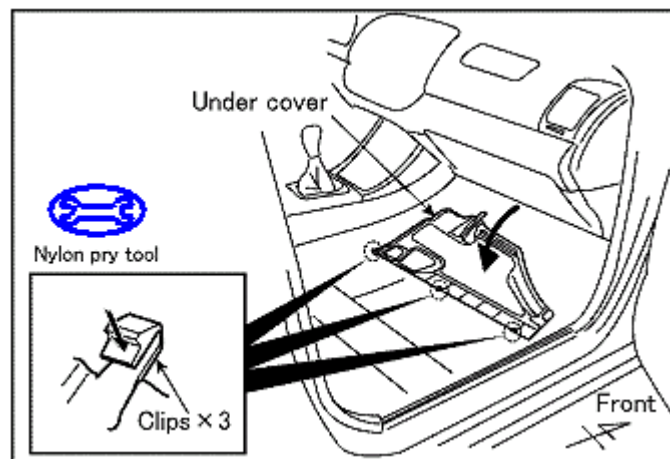

Figure D1
- ➡ i. Use nylon pry tool to disengage clips on under dash cover. (Figure D1)